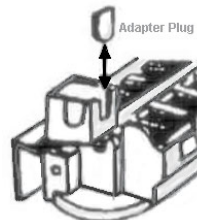

Figure 5
5. Insert provided sliding plug if needed on icemaker fill tray (see figure 5).